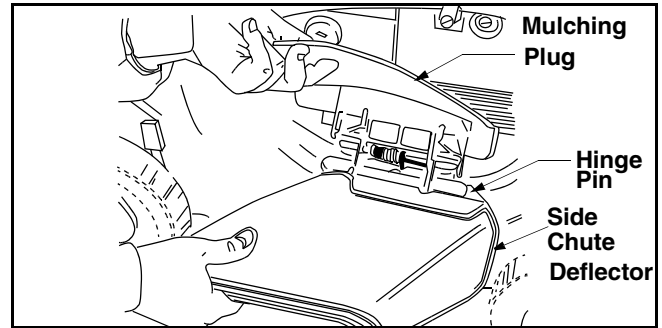

Figure 10
- On the right side of the mower, lift the mulching plug and slide the two hooks of the side-discharge chute under the hinge pin on the mulching plug assembly. Lower the mulching plug. See Figure 10.